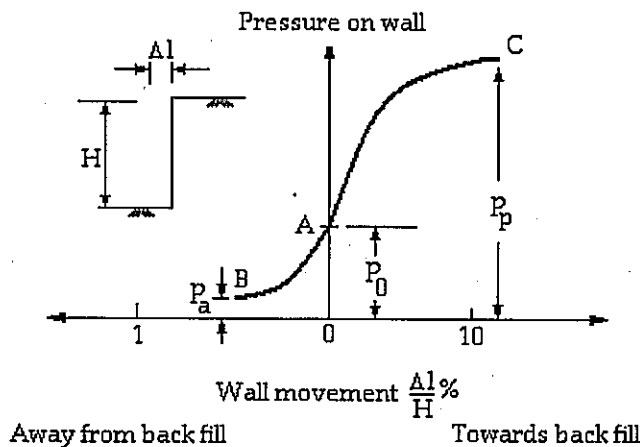

Figure Q4(a)
4. a) Figure Q4(a) shows variations in wall pressure with wall movement. State the expressions for pressures  $p_0$ ,  $p_a$  and  $p_p$  for a cohesionless backfill. (3 points)
5. Figure Q4 shows a rectangular foundation supporting two columns A and B, with centrelines separated by a distance of 2m. The dead and live loads acting on the two columns are as follows: